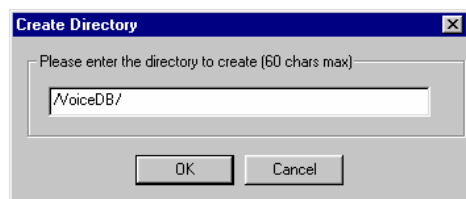

Figure 7-4 EFS Create Directory dialog
2. From the File menu, select New→Directory. The Create Directory dialog, as shown in Figure 7-4, appears.